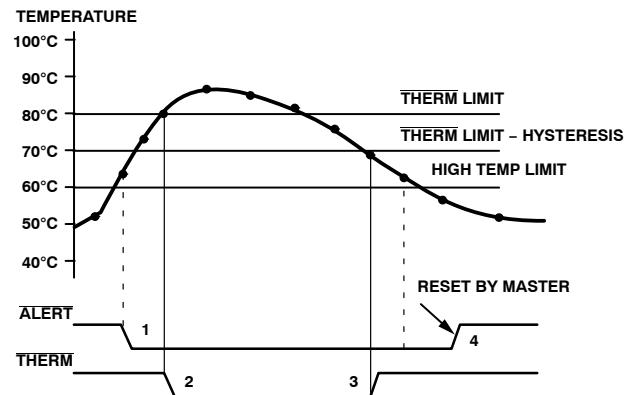

Figure 20. Operation of the ALERT and THERM Interrupts
Figure 20 shows how the THERM and ALERT outputs operate. A user may choose to use the ALERT output as an SMBALERT to signal to the host via the SMBus that the temperature has risen. The user could use the THERM output to turn on a fan to cool the system, if the temperature continues to increase. This method would ensure there is a fail-safe mechanism to cool the system without the need for host intervention.
3. The THERM output deasserts (goes high) when the temperature falls to THERM limit minus hysteresis. The default hysteresis value of 10°C is shown in Figure 20.